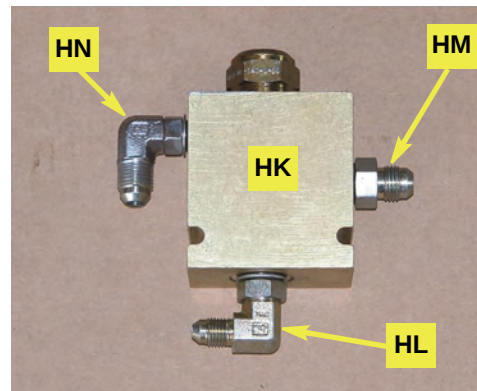

Figure 4a: Prepared load sense valve
- a. Assemble load sense shuttle valve **HK** as follows (Figure 4a):